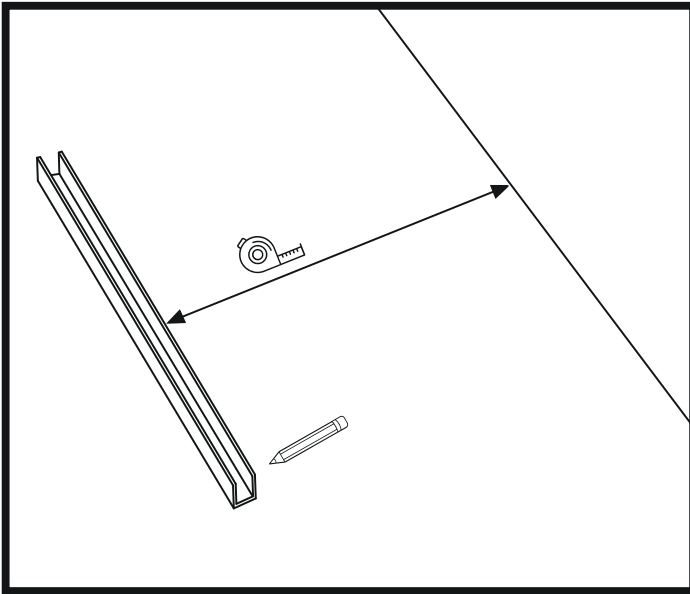

Figure 1
1. Select the distance of the U-profile from the wall according to your wishes, based on the working width of the telescopic tube. Measure the required distance from the wall and make a mark. (Figure 1)